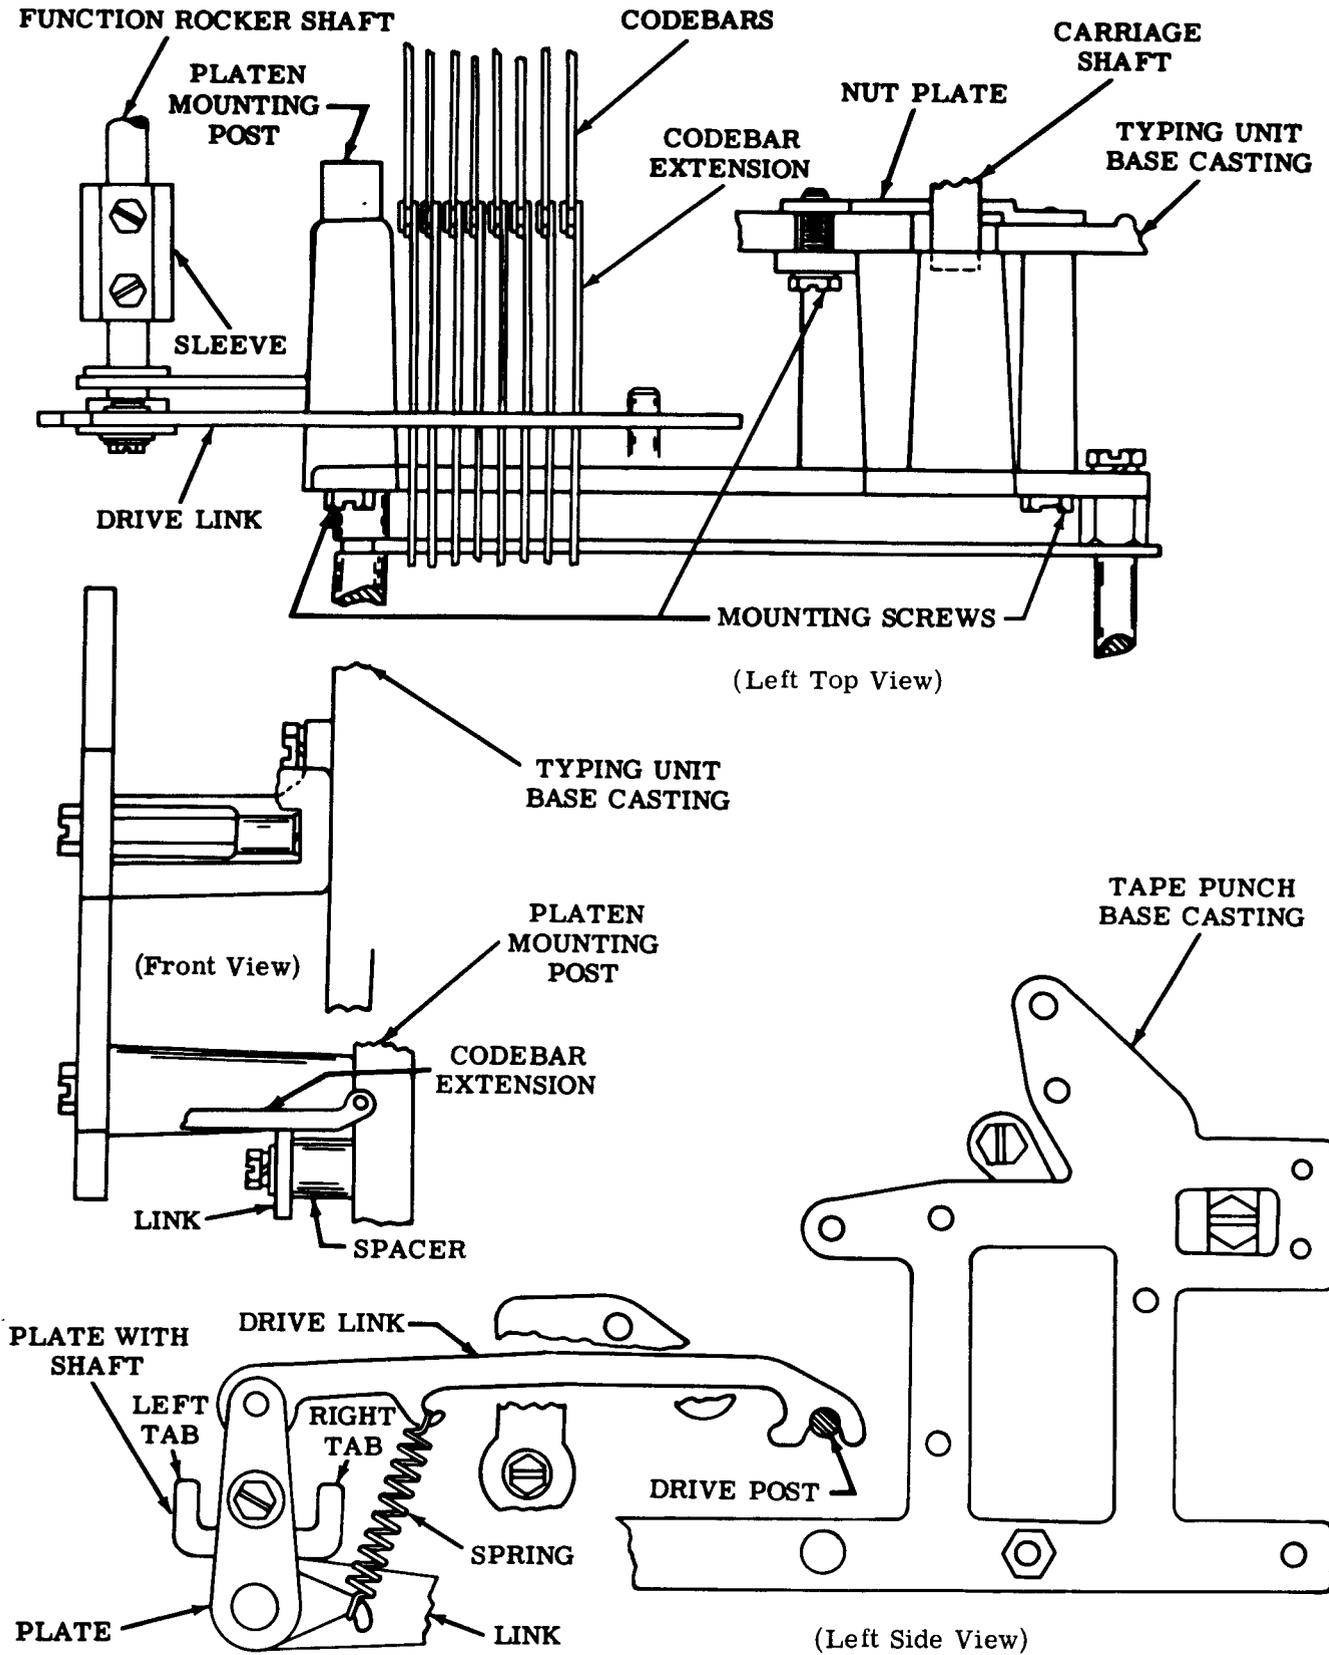

Figure 4 - Tape Punch (Early Design)
2.08 Early Design (Aluminum Casting): To remove the tape punch from the typing unit base casting (Figure 4), proceed as follows.